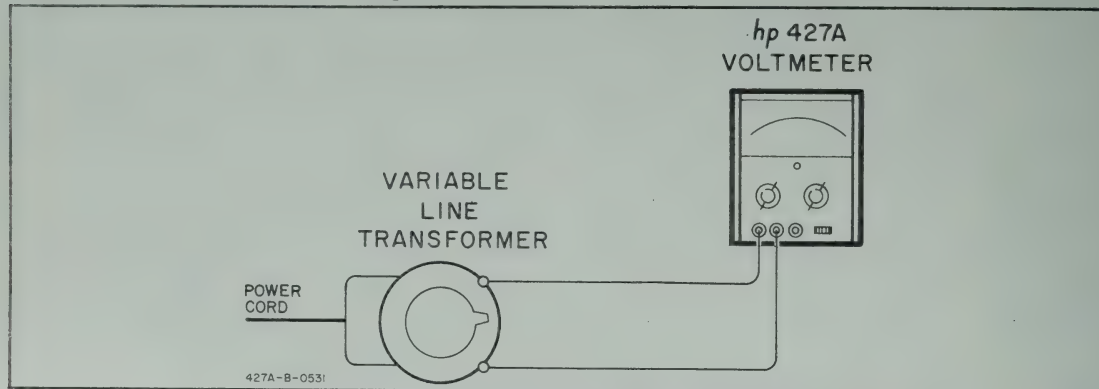

Figure 5-4. AC Superimposed Noise Check
5-19. A peak ac superimposed noise signal 100 times the full scale input should affect the Model 427A reading less than 1%. Figure 5-4 shows the test setup using
## Paragraphs 5-20 to 5-22 and Figure 5-4
- Switch the FUNCTION to ACV and the RANGE to 10. Connect the variable line transformer and the Model 427A as shown in Figure 5-4.